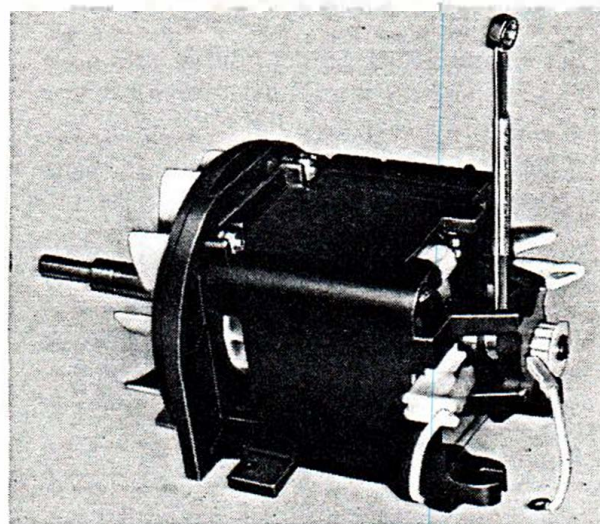

Figure 26. Fan Removal
- A. See Figure 26. Place an 11/32-inch open end wrench on flats machined in armature shaft near rear bearing.